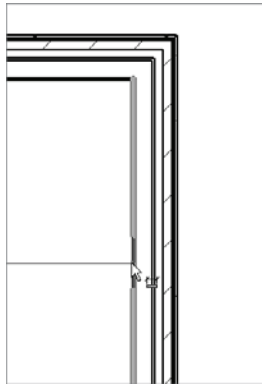

FIGURE 5.30 Press Tab to locate the inside face of the wall.
1. Hover your cursor over the inside face of the wall and tap the Tab key on your keyboard until the inside face of the wall becomes highlighted, as shown in Figure 5.30.